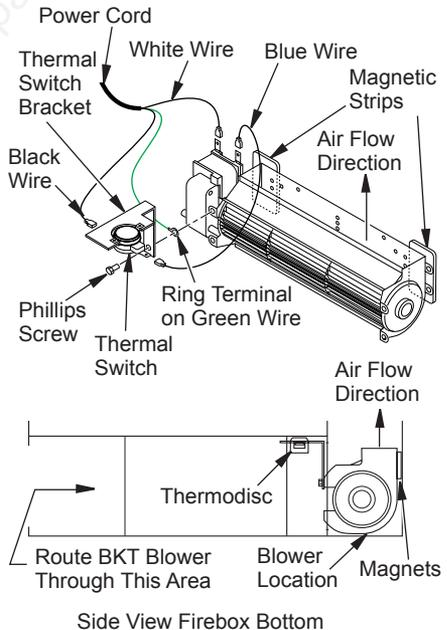

Figure 44 - Blower Model BKT
1. Place green ground wire with ring terminal between bottom hole on thermal switch bracket and top ear hole on blower assembly. Insert Phillips screw into all three pieces and tighten securely (see Figure 44).
3. Place blower against lower rear wall of firebox outer wrapper with exhaust port directed upward and thermodisc positioned up near fireplace bottom. Thermodisc must be oriented near fireplace bottom as shown in Figure 44 in order to sense temperature and properly operate. Blower will be held in position against back wall by magnets incorporated onto blower housing (see Figure 44).